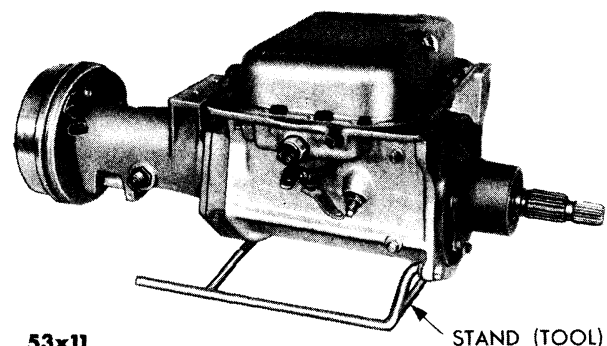
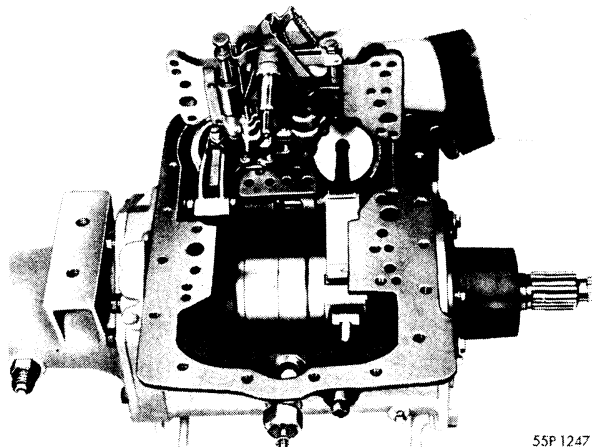

Fig. 71—Transmission Assembly (Inverted Position)
Fig. 72—Removal or Installation of Valve Body and Transfer Plate
- (1) Place transmission assembly in stand, Tool C-3280 and invert, as shown in Figure 71.
- (2) Remove the eighteen oil pan bolts (with attached lockwashers) and remove the oil pan and gasket.
- (3) Loosen the throttle (top) and manual (bottom) control lever assembly locking screw.
- (4) Slide the throttle valve operating lever assembly off shaft, and remove the throttle valve camshaft felt retainer and felt. Slide the manual valve lever assembly off shaft and remove manual valve lever shaft seal cover. Inspect both throttle and manual control levers for wear.
- (5) Remove the two oil strainer support bolts and washers and remove oil strainer assembly. Inspect seal rings located at both outlet sides of strainer.
- (6) Remove the five transfer plate bolts and lockwashers.
- (7) Remove the valve body and transfer plate assembly from transmission case, as shown in Figure 72.